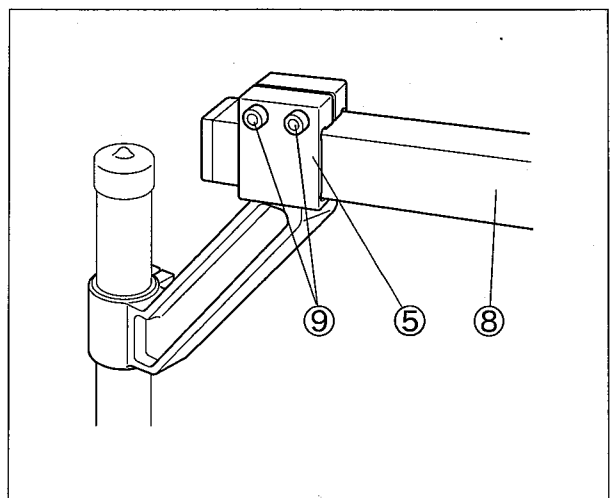

Fig. 2-3
4. Insert the sub pole ⑧ into the joint ⑤, and tighten the screws ⑨. (Fig. 2-3)